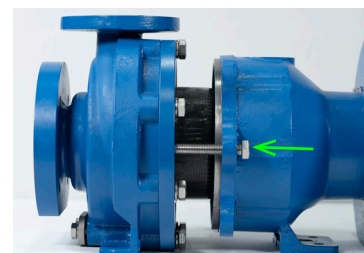

figure 2
7. Using a 22mm socket, unbolt the wet end (Items 1 through 10) from the motor adapter (Item 12) by removing the (4) M14 hex head cap screws (Item 27). Extend the (2) jackscrews (Item 29) using a 22mm socket, turn the jackscrews clockwise until they are fully extended. See figure 2.